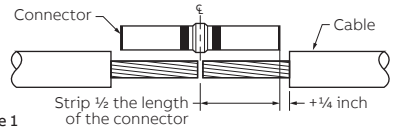

Figure 1
1. Strip both ends of the cable insulation  $\frac{1}{2}$  the length of the connector, plus  $\frac{1}{4}$  inch, figure 1.